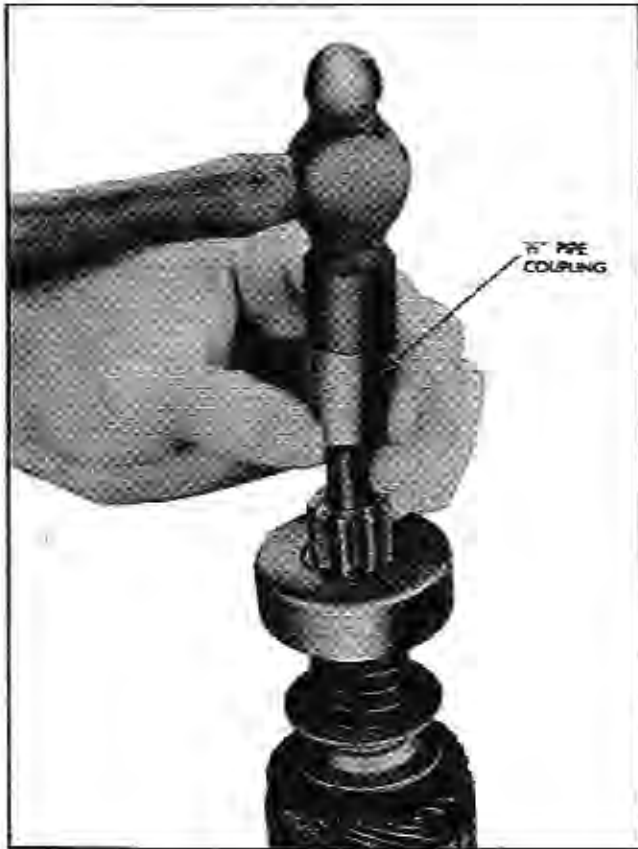

Fig. 11-44 Driving Retainer Off Snap Ring
- b. Slide a standard half inch pipe coupling or other metal cylinder of suitable size (an old pinion of suitable size can be used if available) onto shaft so end of coupling or cylinder butts against edge of retainer (Fig. 11-44). Tap end of coupling with hammer, driving retainer towards armature and off snap ring.